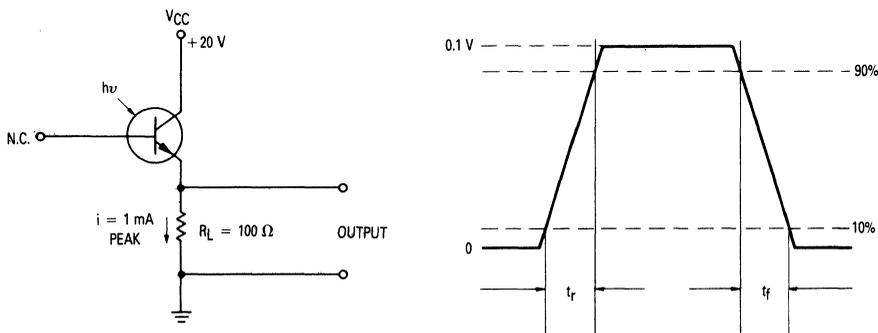

Figure 8. Pulse Response Test Circuit and Waveform
4. Radiation Flux Density (H) equal to $5\ \text{mW}/\text{cm}^2$ emitted from a tungsten source at a color temperature of $2870\ \text{K}$.
5. For unsaturated response time measurements, radiation is provided by pulsed GaAs (gallium-arsenide) light-emitting diode ($\lambda = 940\ \text{nm}$) with a pulse width equal to or greater than 500 microseconds (see Figure 8).